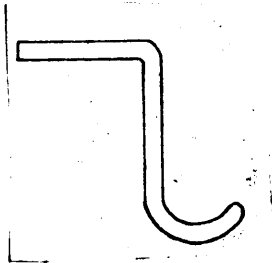

Figure 4.
5. Extend the end of the stock that is to form the eye over the tip of the anvil horn and bend tip end until it is about the same bend of the finished eye. (Figure 4). Reheat whenever necessary.